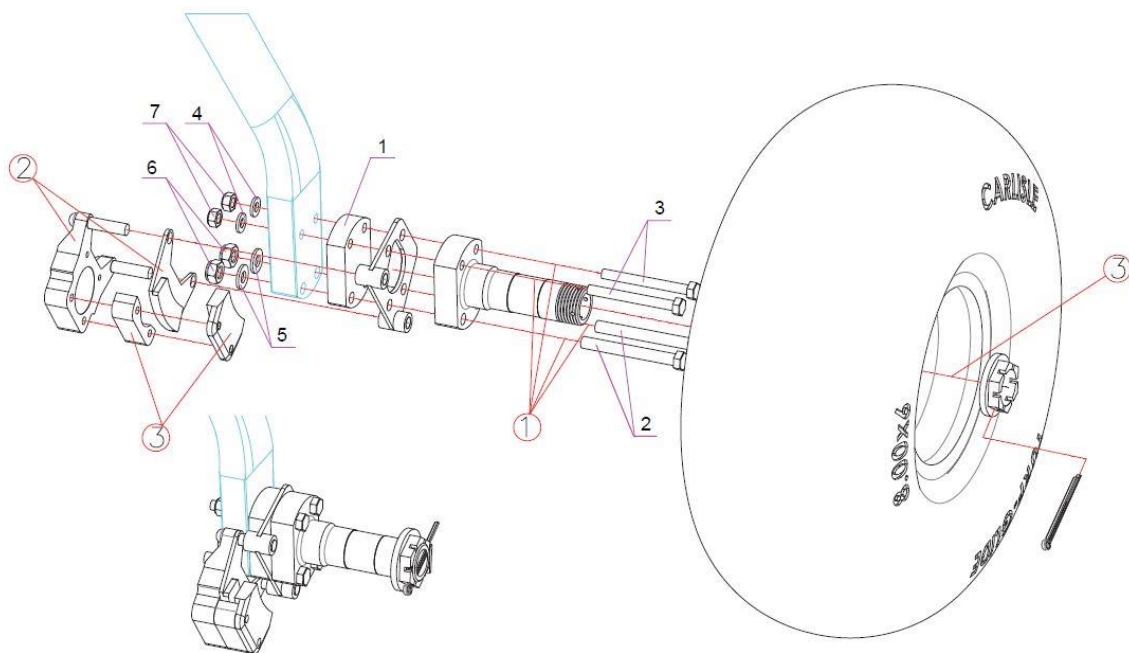

Figure 2.4.3.2: Main wheel installation with spacer
1. Assemble as per the assembly steps shown in figure 2.4.3.2.